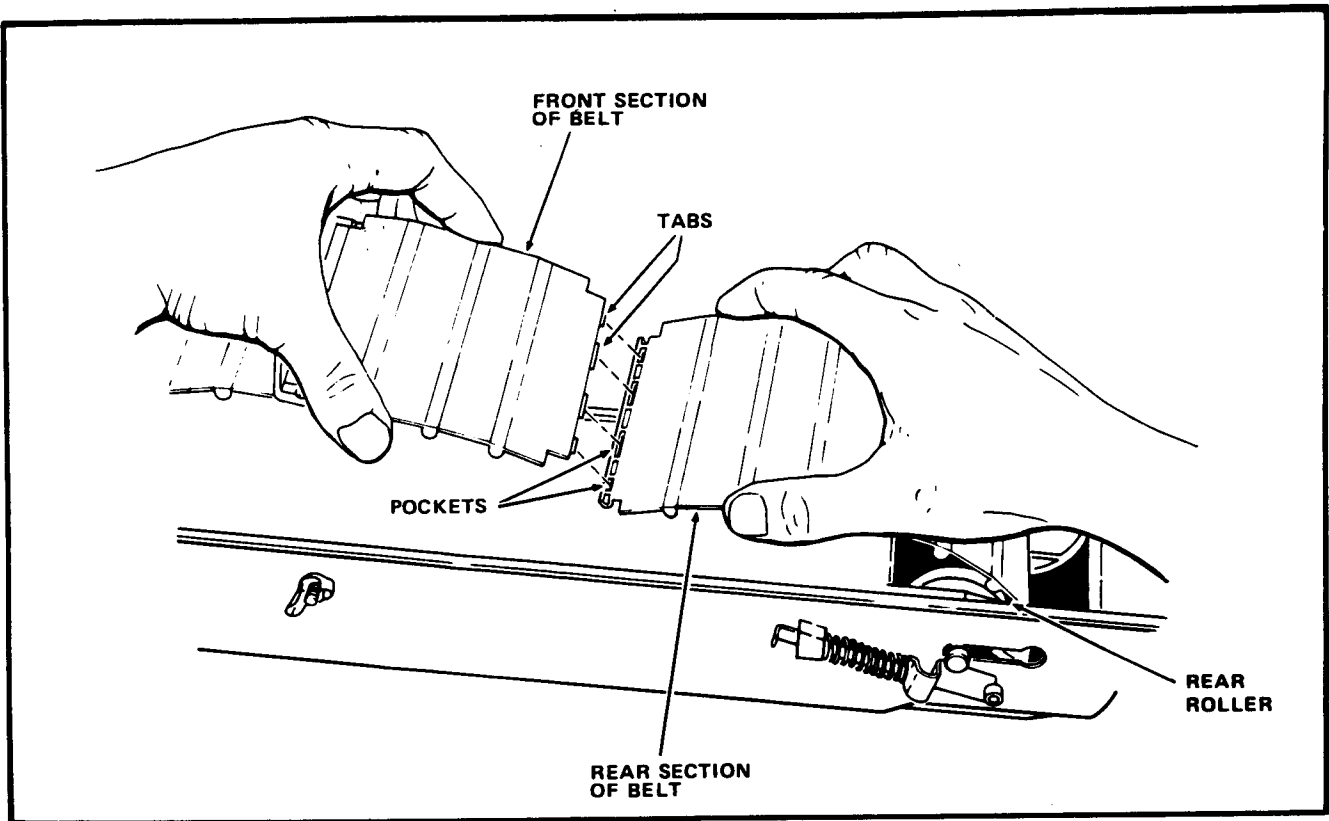

FIGURE 12
19. Grasp both ends of the Belt and pull them together. See Figure 12.
20. Insert the Tabs on the Front section of the Belt into the Pockets on the rear section of the Belt and snap the Belt together. See Figure 12.